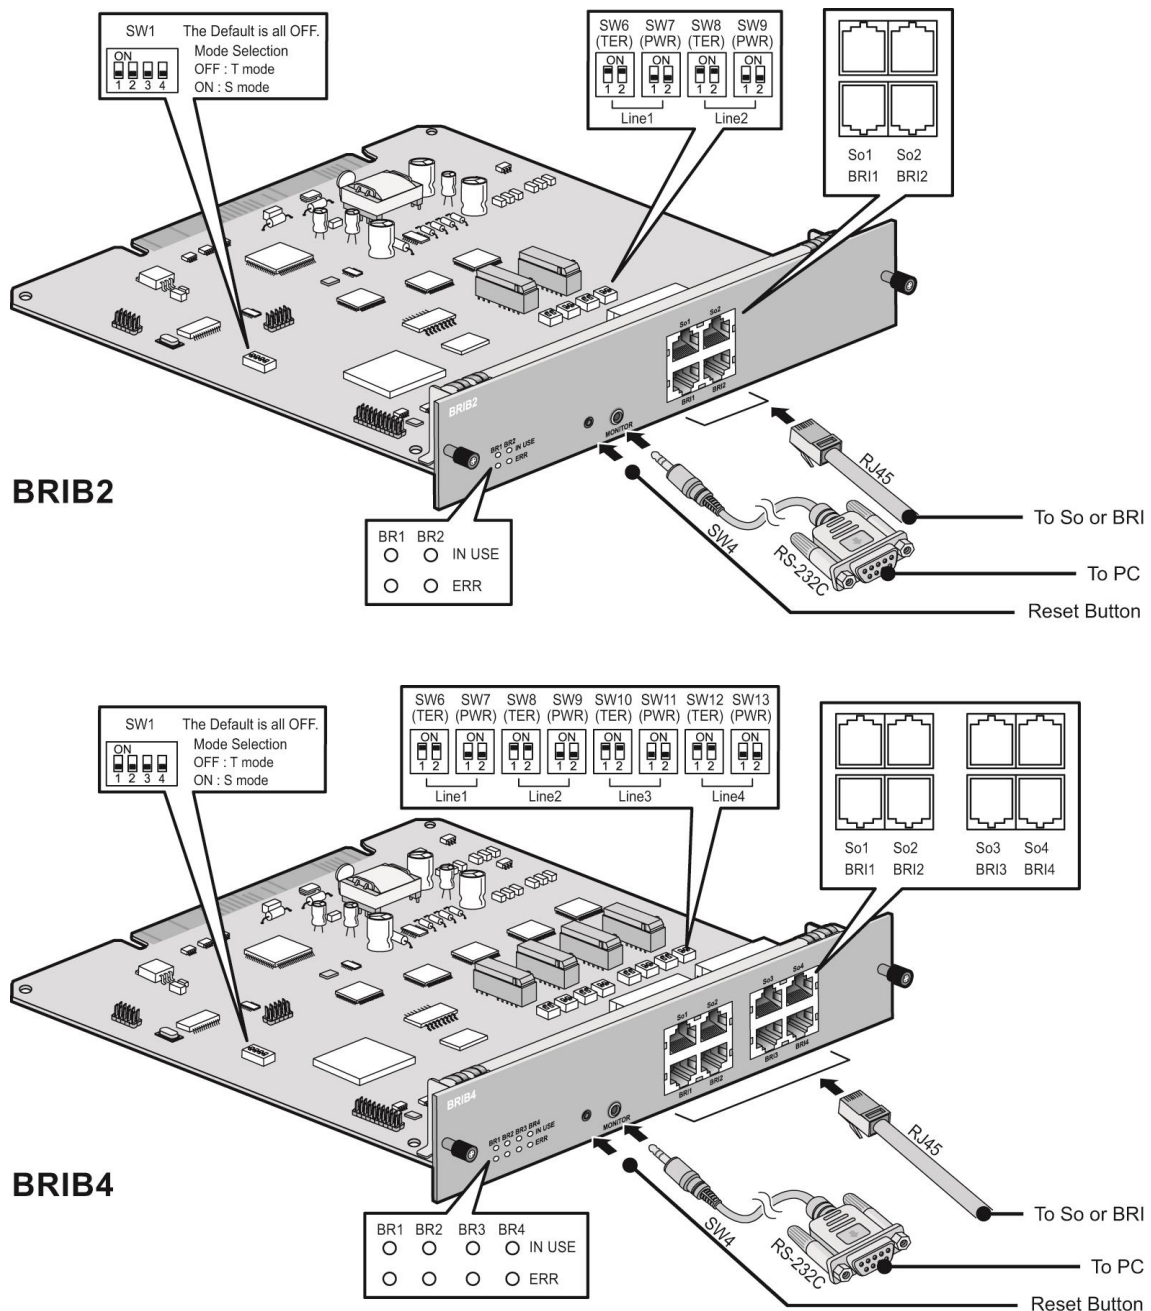

Figure 4.3.2-1 BRIB2 and BRIB4
The BRIB is available in two models, the BRIB2 with two (2) BRI lines (4 channels) and the BRIB4 with four (4) BRI lines (8 channels). The BRIB is compatible with ETSI 300.012 and ITU-T recommendations I.430 supporting S (Subscriber) or T (Trunk) interfaces. As shown in Figure 4.3.2-1, the S interface of the BRIB acts as the NT (Network Termination) connecting to TEs (Terminal Equipments) and can provide power feed (-40VDC) to the attached TEs (maximum eight TEs). A 100-ohm Terminating Resistor can be inserted across the TX and/or RX pair. When used, a 100-Ohm terminating resistor should be connected across the TX and RX pair at one of the TEs.